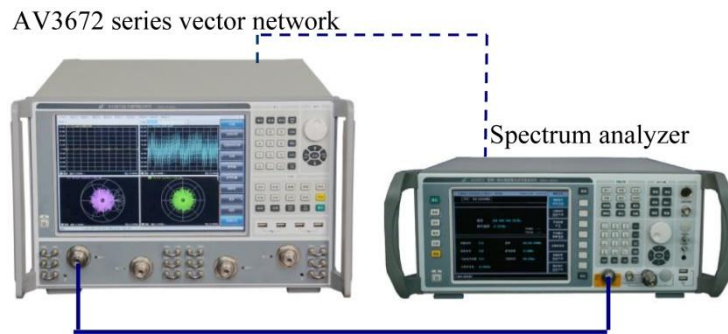

Fig. 11.2 Block Diagram of Frequency Resolution Test
- 1) As shown in Fig. 11.2, connect the system and preheat is for 60min at least.